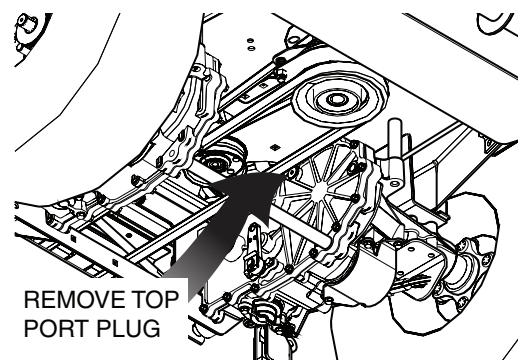

Figure 7-2. Top Port Plug Location
4. Remove the hydraulic filters from both axles and allow the fluid to drain into the container. Properly discard the oil when the system has drained completely. See Figure 7-2.
7. Remove the side top port plug from both transaxles before filling with oil. See Figure 7-2.
16. After the purge process is complete, remove the side top port plug from both transaxles to check the oil level. See Figure 7-2. If necessary, fill oil until the oil just appears at the bottom of each axle top port.